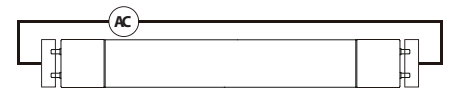

Fig:1 -Double-ended connection
- 7) LED T5 lamps are designed for double-ended connections only (Fig.1).